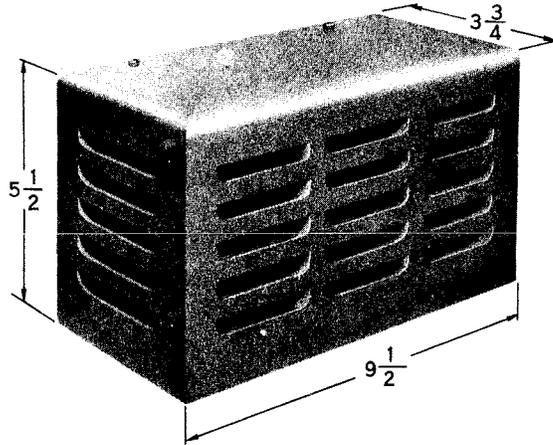

Fig. 5 – 181A-49 Backboard for Mounting L1A Ringer
- (f) Mount the L1A ringer with a 181A backboard (Fig. 5). Two RH self-tapping screws are furnished with the backboard.